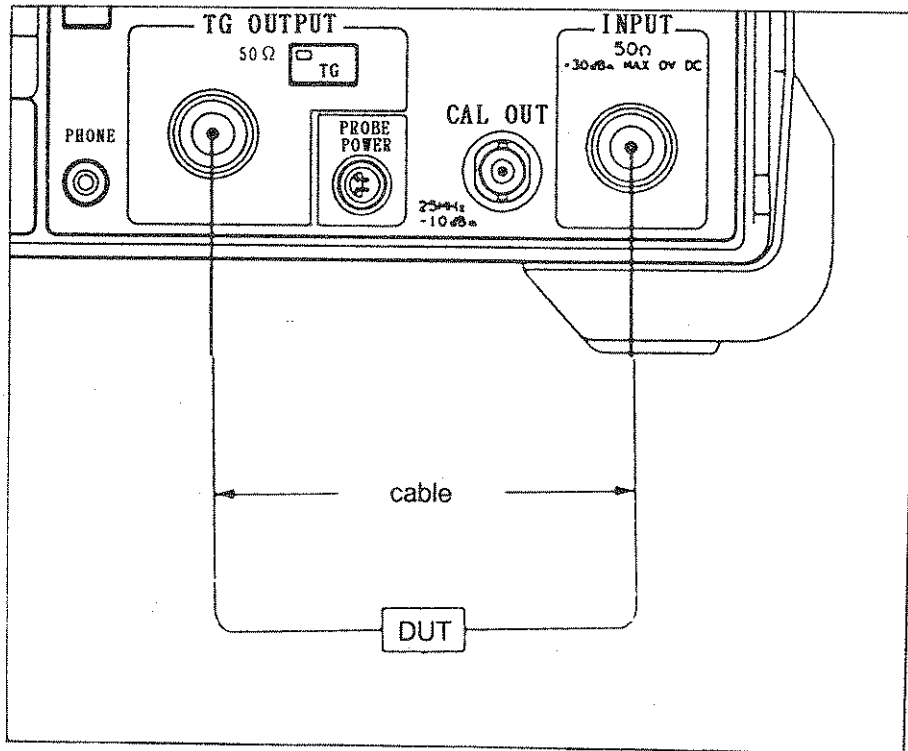

Figure 4-21 Connecting with DUT
- ④ If an error caused by the frequency response of cables spectrum analyzer etc, is not negligible, then you should compensate it as is described in step (2) later on.
- ⑤ Set up the DUT and test cable as shown in Figure 4-21.